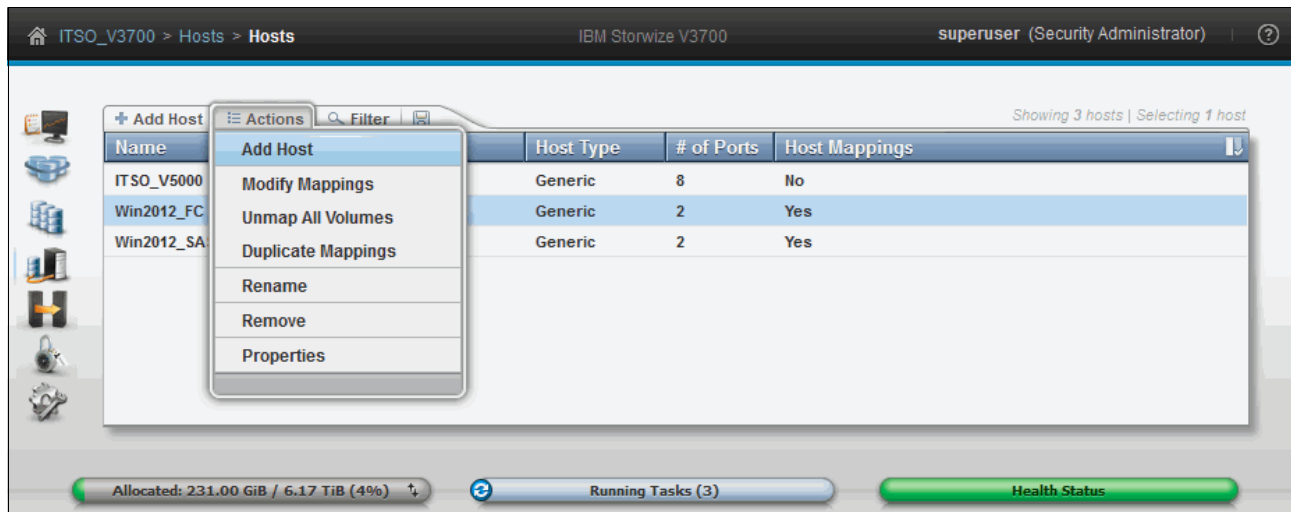

Figure 8-3 Host: Action menu
2. Select a host and click **Actions** (as shown in Figure 8-3), or right-click the host, to show the available actions.
As shown in Figure 8-3, there are several Actions associated with host mapping. For more information, see 8.1.1, “Modifying Mappings menu” and 8.1.2, “Unmapping volumes from a host” on page 367.